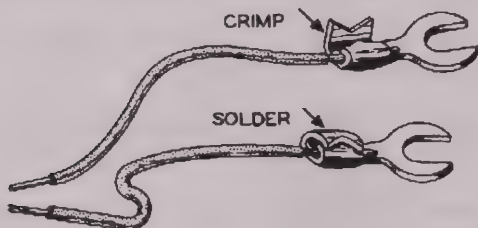

Figure 6
- () Refer to Figure 6 and at the 3" stripped end of the cable install spade lugs on the red and white wires. Connect both black wires and the shield pigtail to the remaining spade lug, in a similar manner.